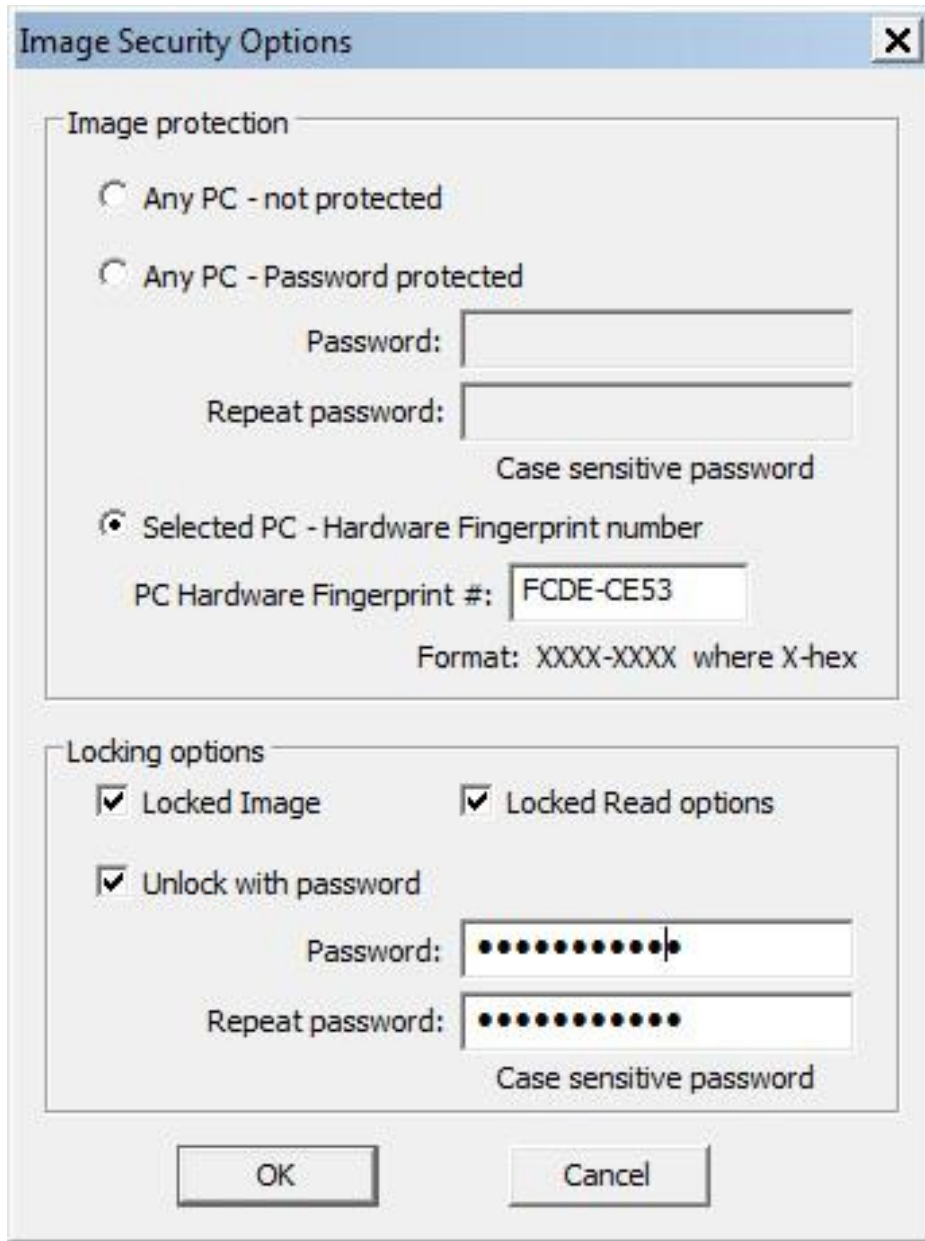

Figure 11.3: Image Options with security settings enabled and the password lock and unlock options specified.
**Unlock with password:** When setup is locked then it is possible to select option “Unlock with password” and specify up to 16 characters unlocking password. Password is case sensitive. Shown in Figure 11.3 is an Image Security Options dialog screen with selected options Image protection with Selected PC - Hardware Fingerprint number”, locked and unlocked with password.